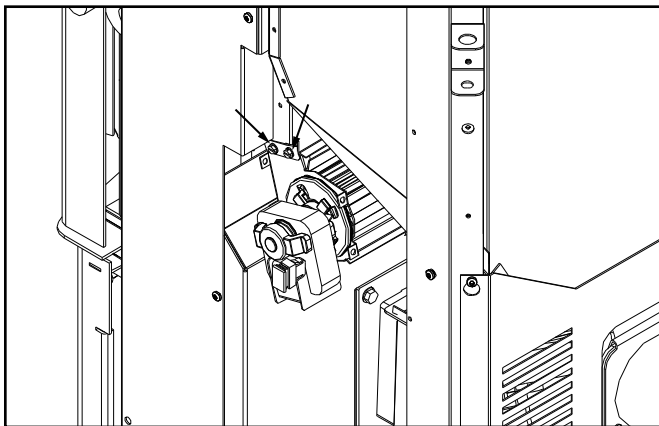

Figure 33: Behind the right cab panels.
3. Slide the fan into place between the bracket (see Figure 33 & 34).
4. Using a flat head screwdriver or a $\frac{1}{4}$ " socket fasten the fan in place with two (2) screws on each side.